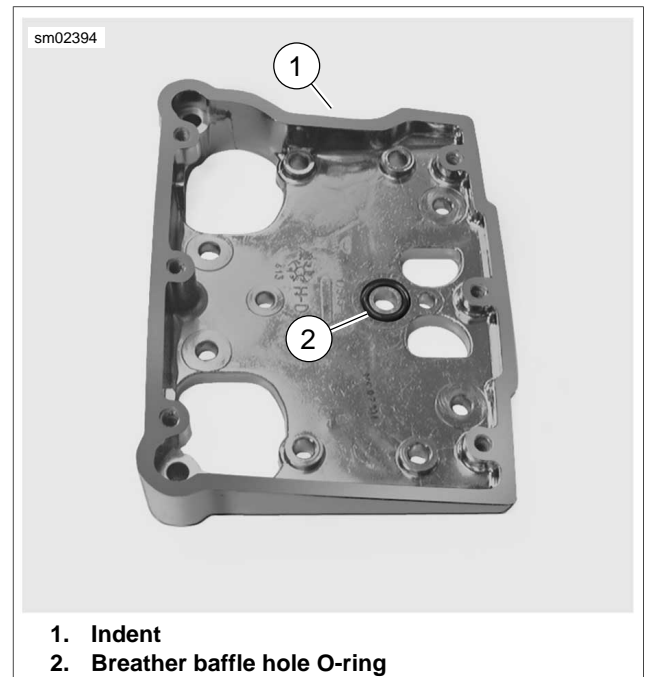

Figure 3-44. Rocker Housing Alignment
7. See Figure 3-44. With the indent (1) facing forward, place the rocker housing into position aligning the holes in the housing with those in the gasket.
9. See Figure 3-44. Apply a very thin film of clean H-D 20W50 engine oil to **new** baffle hole o-ring (2). Install **new** o-ring in groove around breather baffle hole in rocker housing.